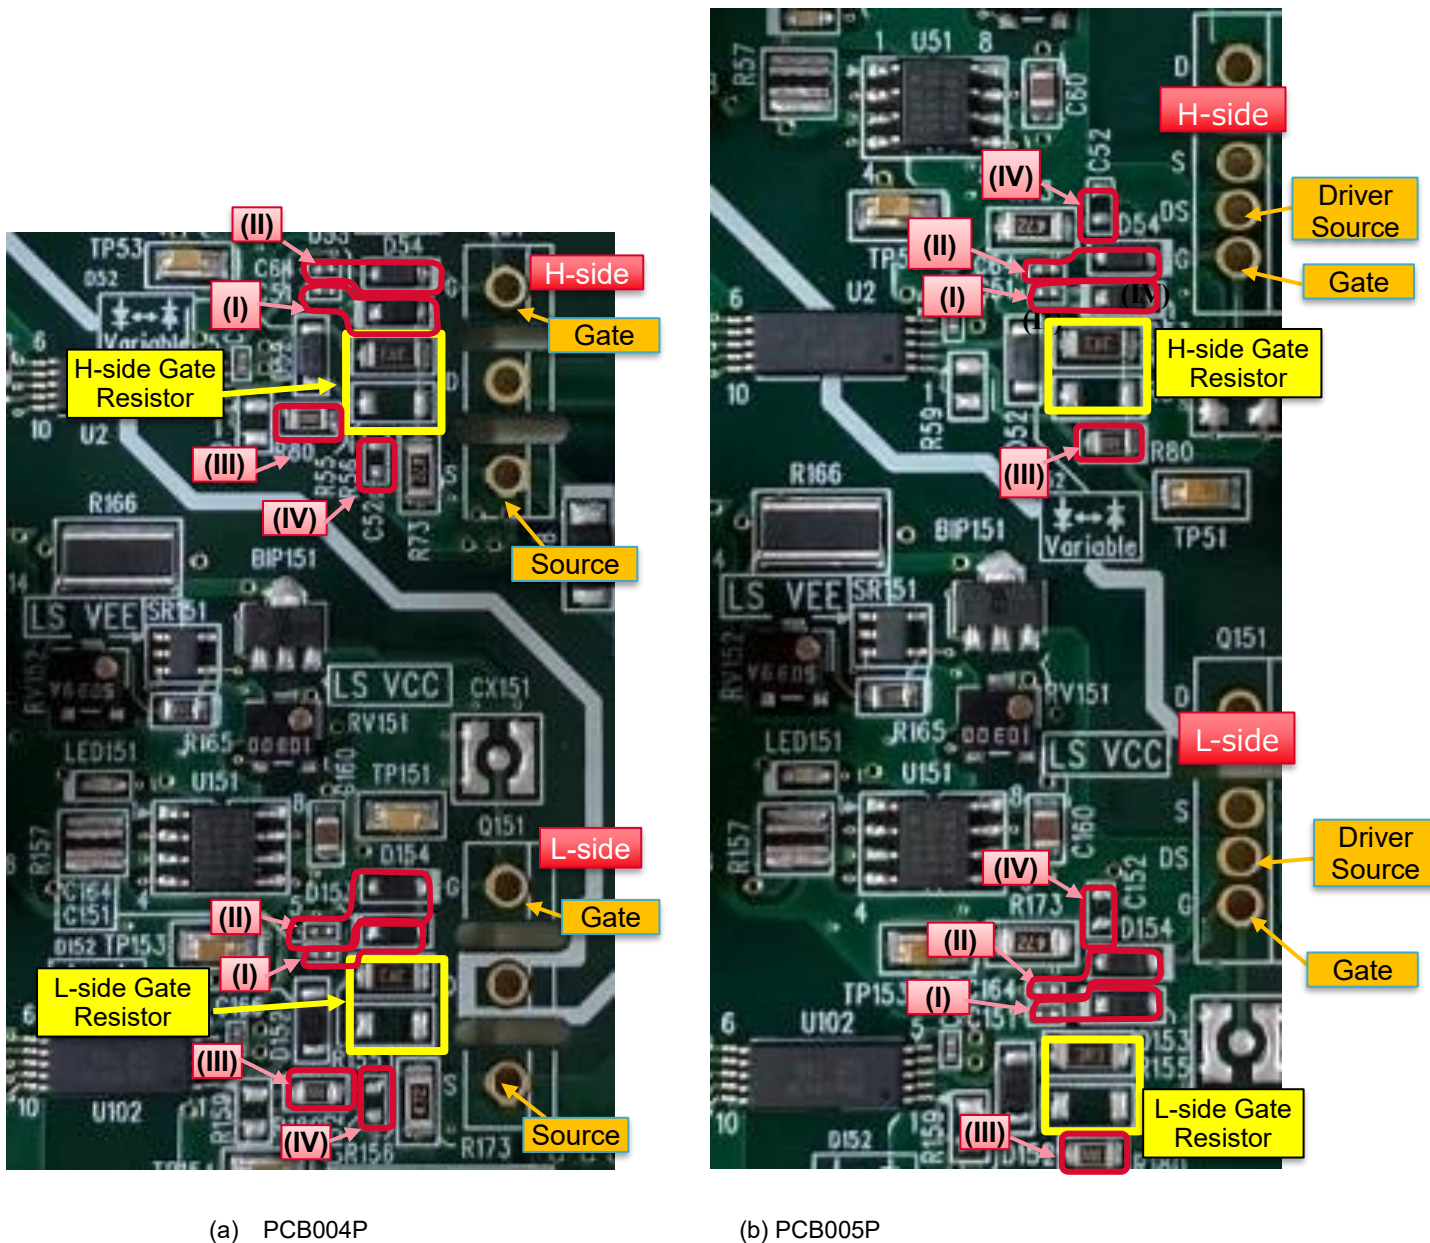

Figure 24 Mounting position of gate-source voltage protection circuit
Figure 24 shows an example of a protective circuit mounting. (a) is the board for TO-247N (PCB004P) and (b) is the board for TO-247-4L (PCB005P). Since the pin assignment of the gate pin is opposite for TO-247N and TO247-4L, the protection circuit has the optimal mounting layout for each package.
A double-pulse test was conducted by connecting SCT4090KR in a bridge configuration and switching the high-side (HS), and the following is an example of how the protective circuit reduces the  $V_{GS}$  surge voltage. Figure 24(a) shows the measurement circuit and (b) shows the measurement waveform.